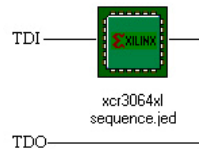

Figure 11: Programming Succeeded
9. Once the chip has been programmed you will receive a confirmation. Close iMPACT and do not save. Refer to Figure 11.